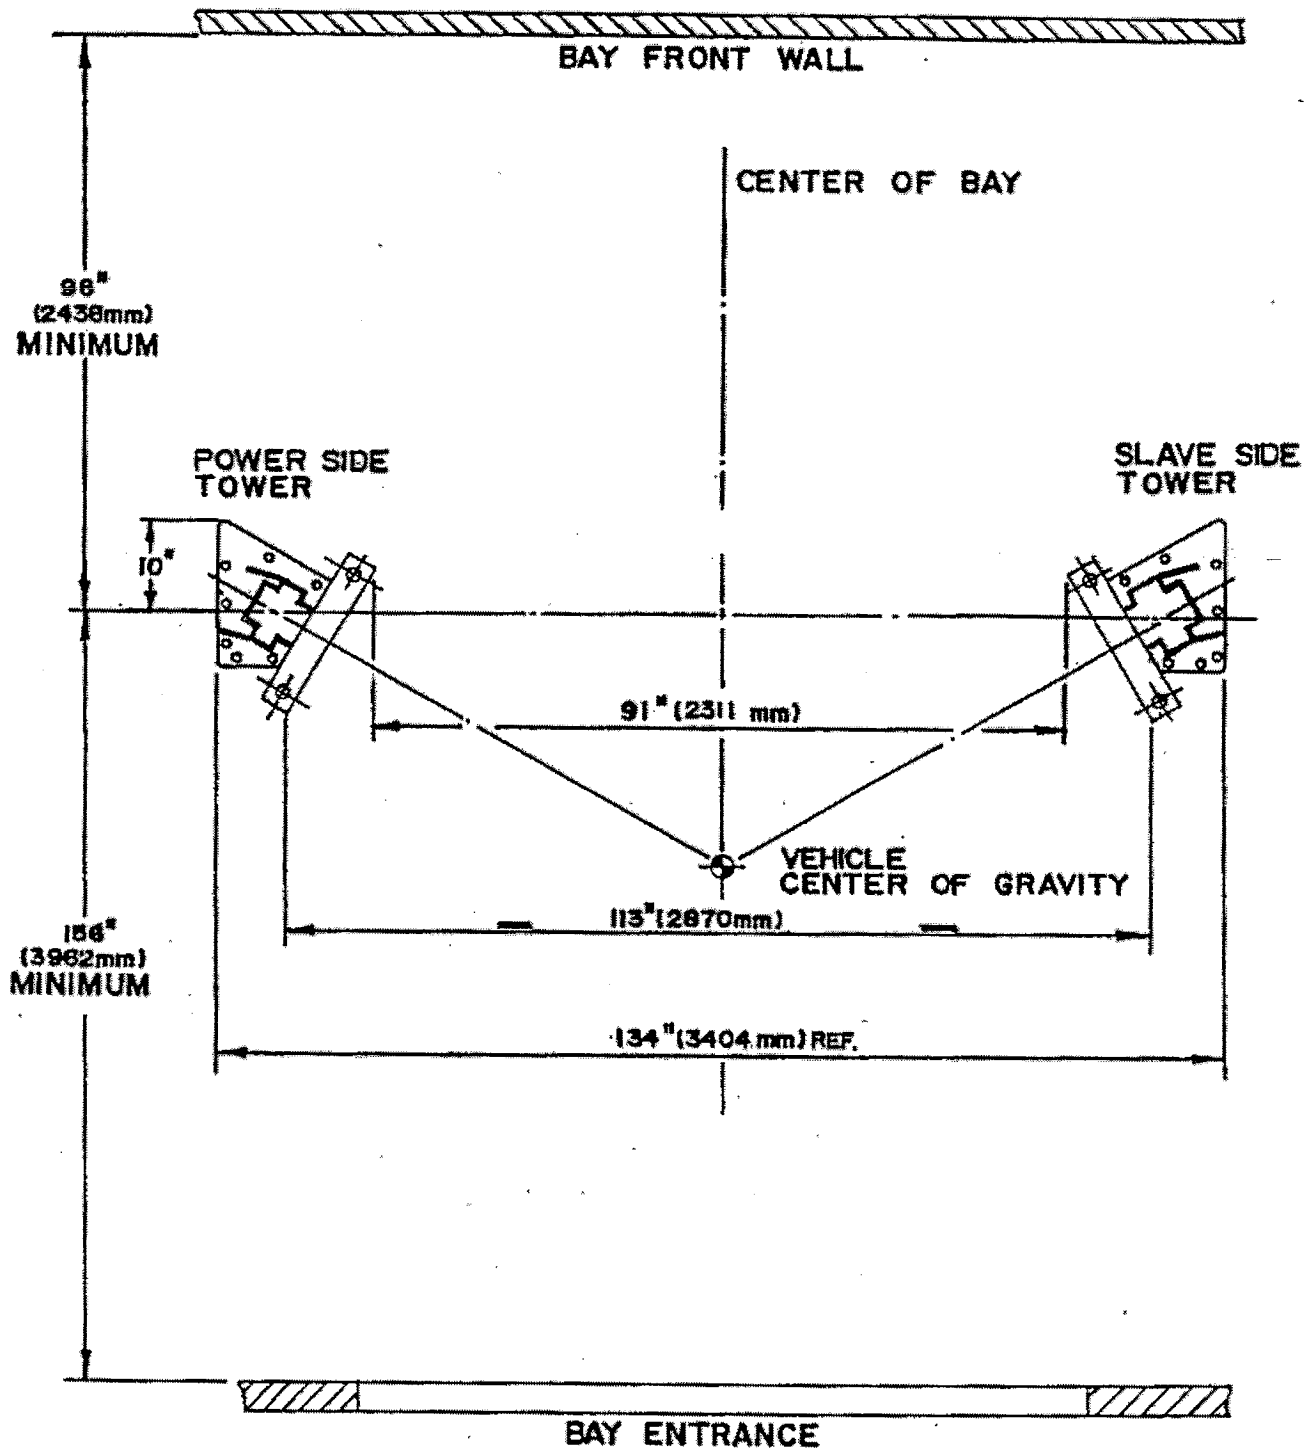

Figure 3 – Bay Layout
7. Prepare the bay by selecting the location of the lift relative to the walls. Clear area of all packaging materials to avoid trip hazards. Draw a chalk line on the floor to represent the center line of the bay and a second chalk line crossing at 90° for locating the lift towers. Refer to **Figure 3**.
1. Locate the power side and slave side tower to the relative position as shown on **Figure 3**. Double check all dimensions.
2. Using a step ladder, install the crossmember. Raise and place the crossmember mounting hooks over the top of the tower. Install and **tighten** the crossmember using four (4) 1/2"-13UNC x 1 1/2"LG. hex head bolts, flat washers, lock washers and hex nuts.
3. Check the towers to make sure they are located, and positioned in the correct location. Refer to **Figure 3**.
3. Refer to Bay Layout (**Figure 3**) to ensure that the column is still in the proper position. Using a rotary hammer drill with a $\frac{3}{4}$ " masonry drill bit, drill holes in the floor on the high side column using the tower baseplate as a template. Make sure that the $\frac{3}{4}$ " masonry drill is in good condition (**Figure 16A**).
2. Refer to Bay Layout (**Figure 3**) to ensure that the column is still in the proper position. Using a rotary hammer drill with a 3/4" masonry drill bit, drill holes in the floor on the low side column using the column baseplate as a template. Make sure that the 3/4" masonry drill is in good condition (**Figure 16A**).